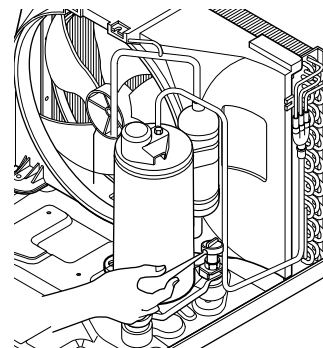

Figure 22
6. Remove the compressor. (See Figure 22)